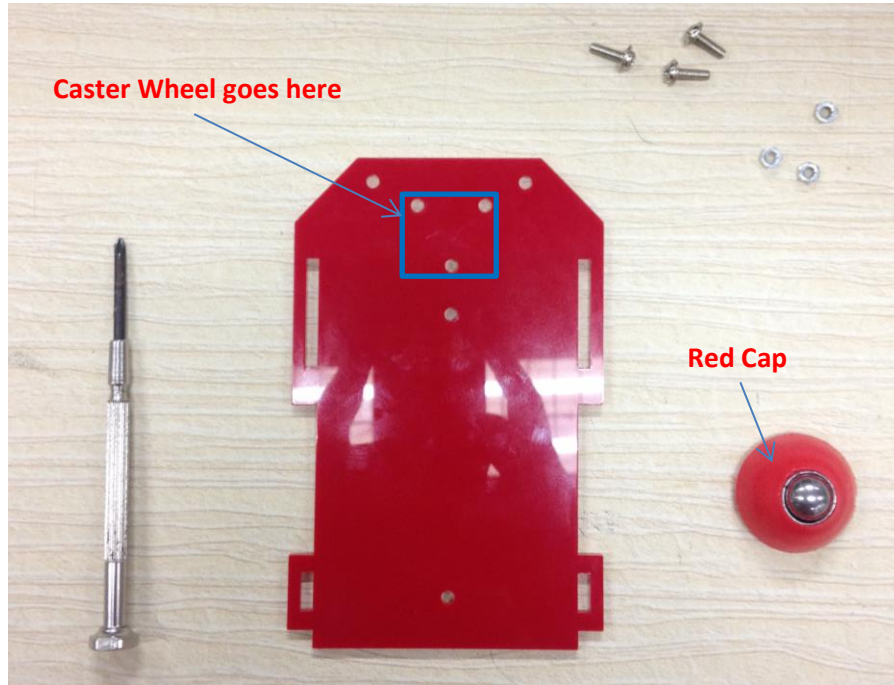

Figure 3: Components required for Step 1
Step 1: Fixing the Caster Wheel to the Bottom Plate using components shown in Figure 3.
Please remove the Red Cap from the Caster Wheel and then put it at the position shown in Figure 3 using nuts and bolts. You may put the Red Cap back once it's fixed.